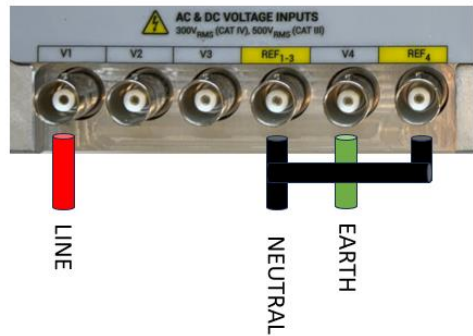

Figure 19: VECTO Transient Single-Phase Voltage Connection Layout
- Connect the Line Voltage to Voltage Input 1 as shown in Figure 19.